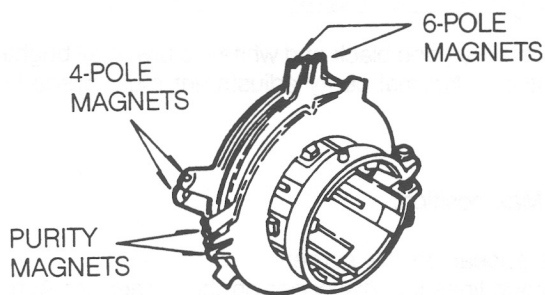
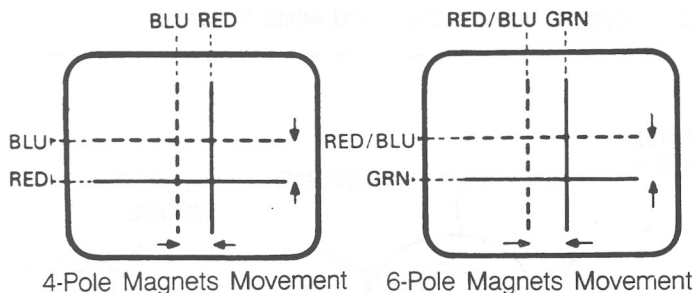

Fig. 11 CONVERGENCE MAGNET ASSEMBLY
Fig. 12 CENTER CONVERGENCE BY
3. Adjust two tabs of the 4-pole Magnets to change the angle between them (See Fig. 11) and superimpose red and blue vertical lines in the center area of the picture screen. (See Fig. 12)
4. Turn both tabs at the same time keeping their angles constant to superimpose red and blue horizontal lines at the center of the screen. (See Fig. 12)